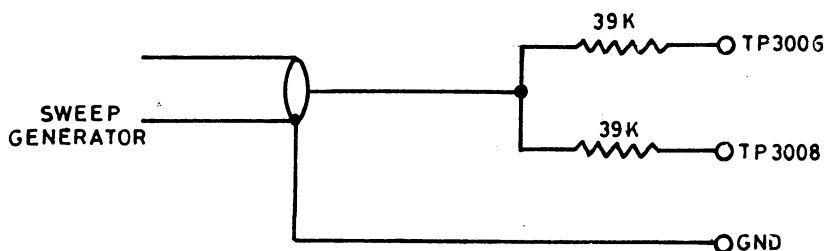

Fig. 11.17
2. Apply the above signal to TP 3006 and TP 3008 on the video section through the resistor 39 K Ω as shown in fig. 11.17